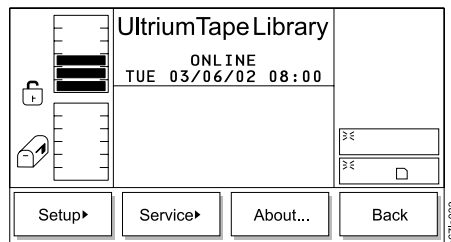

Figure 313. Main Menu (alternate screen)
1. From the Main Menu's initial screen, press the button below the **More** softkey. The Main Menu's alternate screen displays (see Figure 313).